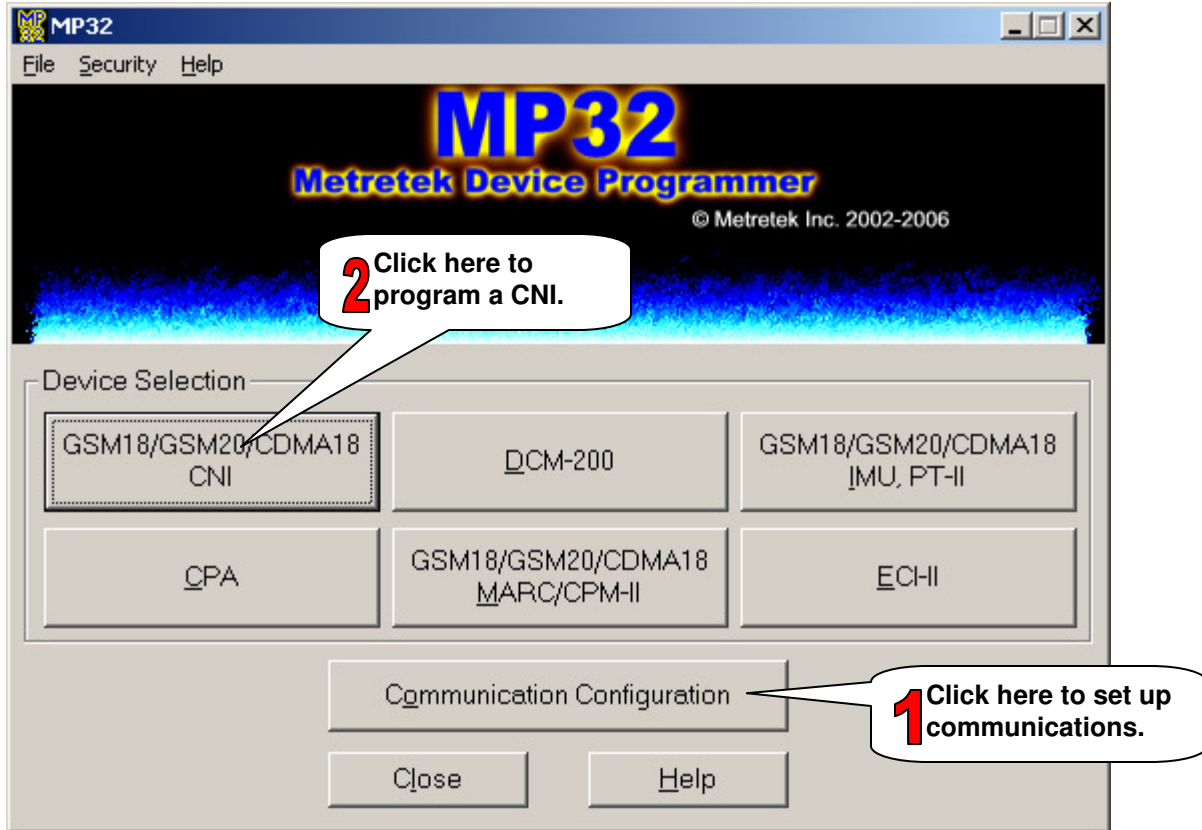
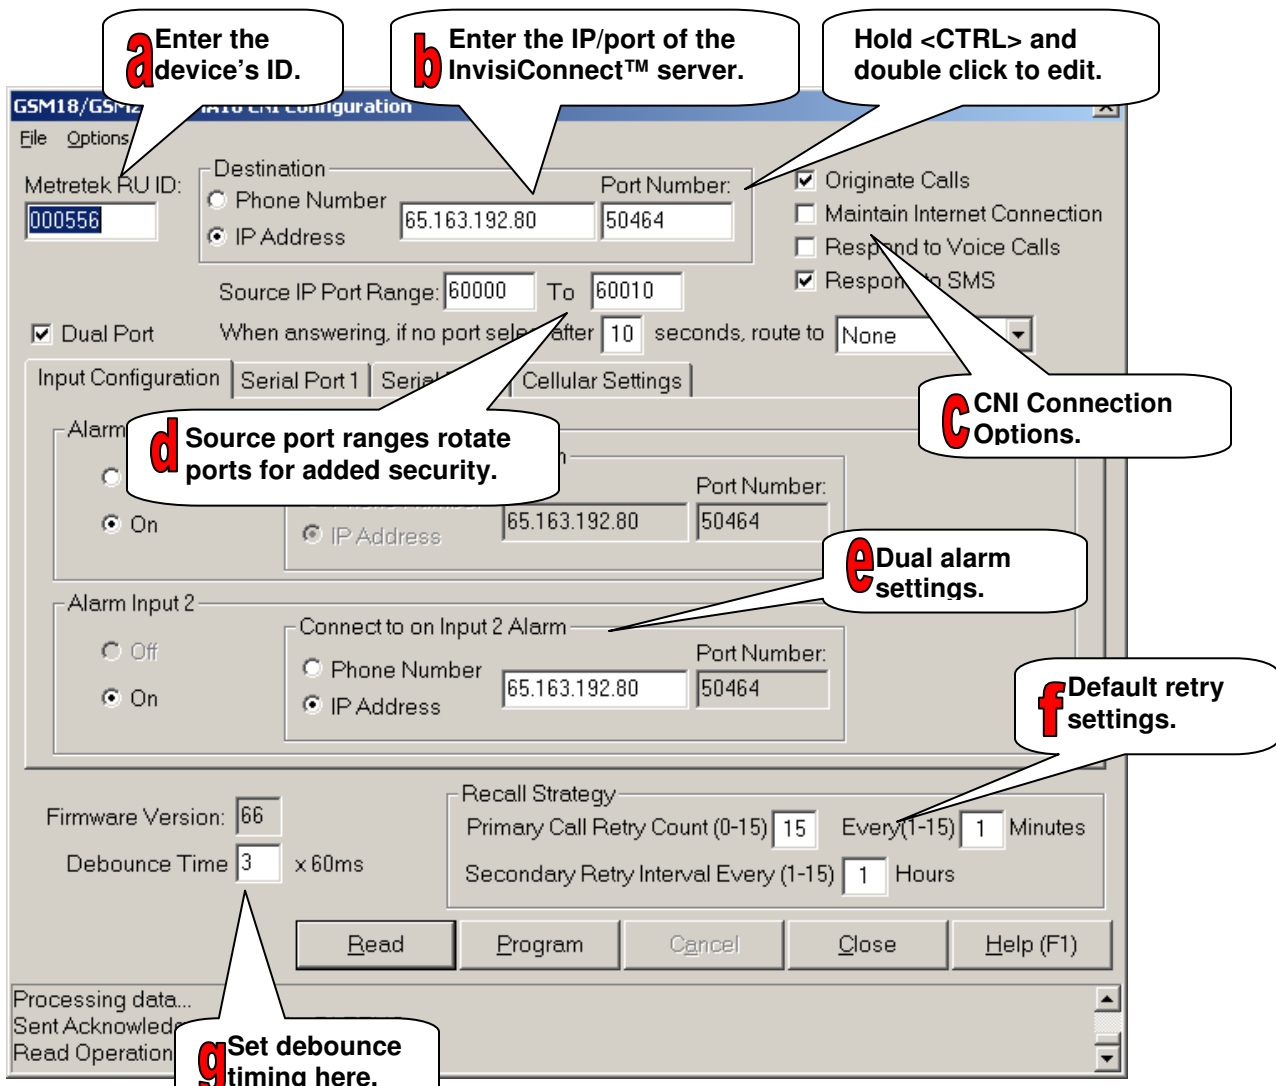

Figure 25 – CNI Configuration – Initial Window
Figure 26 – CNI Configuration – Programming
MP32 is the tool used to program a CNI. The first time you launch MP32 you are reminded about the Admin account’s password but you will not see this reminder on subsequent executions. Figure 25 will be the normal startup window after login. At this time, the CNI should be readily available and have the data/programming cable attached to it.
2. To begin programming a CNI, click on the <GSM18...> button indicated in Figure 25 and a window similar to Figure 26 will open.